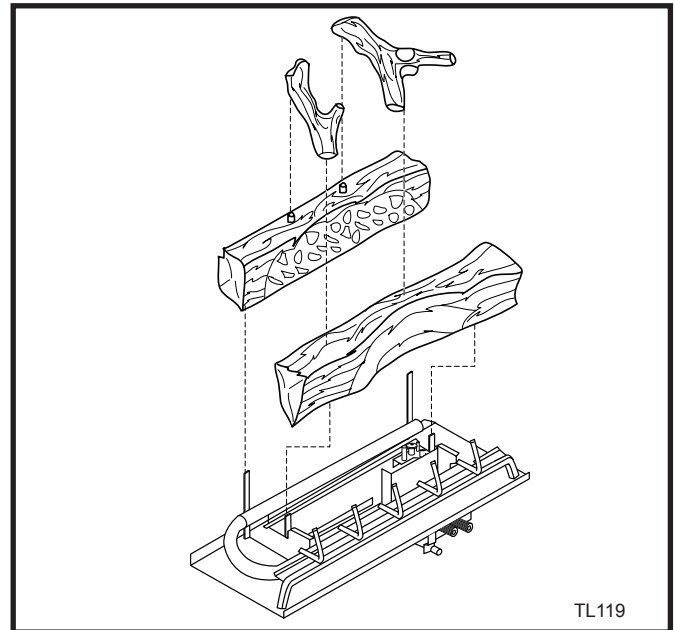

Fig. 39 Correct log placement. 36TDVN shown.
2. Remove logs from carton and inspect. Refer to Figure 39.